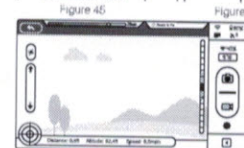

Figure 47
- (5) Tap the "CAMERA" icon and the DJI VISION App will begin a live camera preview (Figure 47). This means everything is functioning normally.